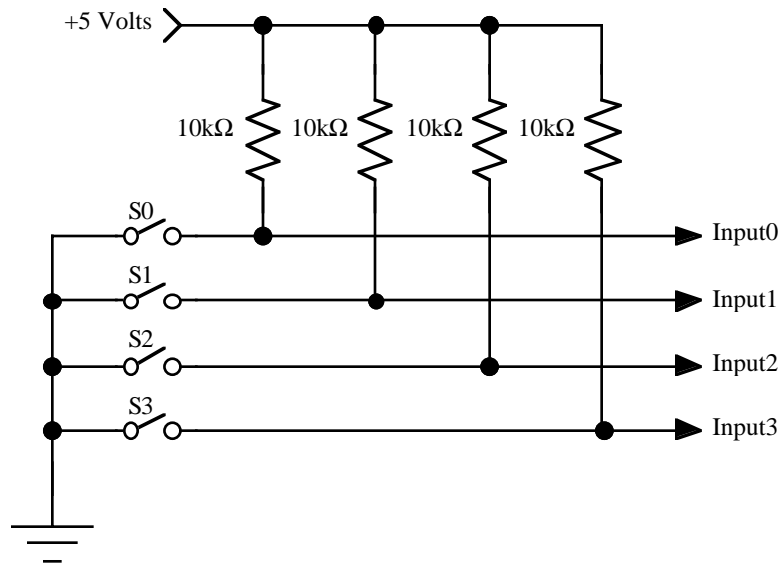
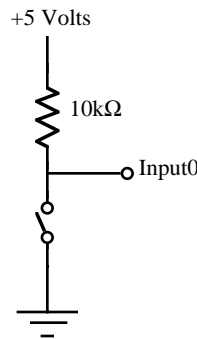
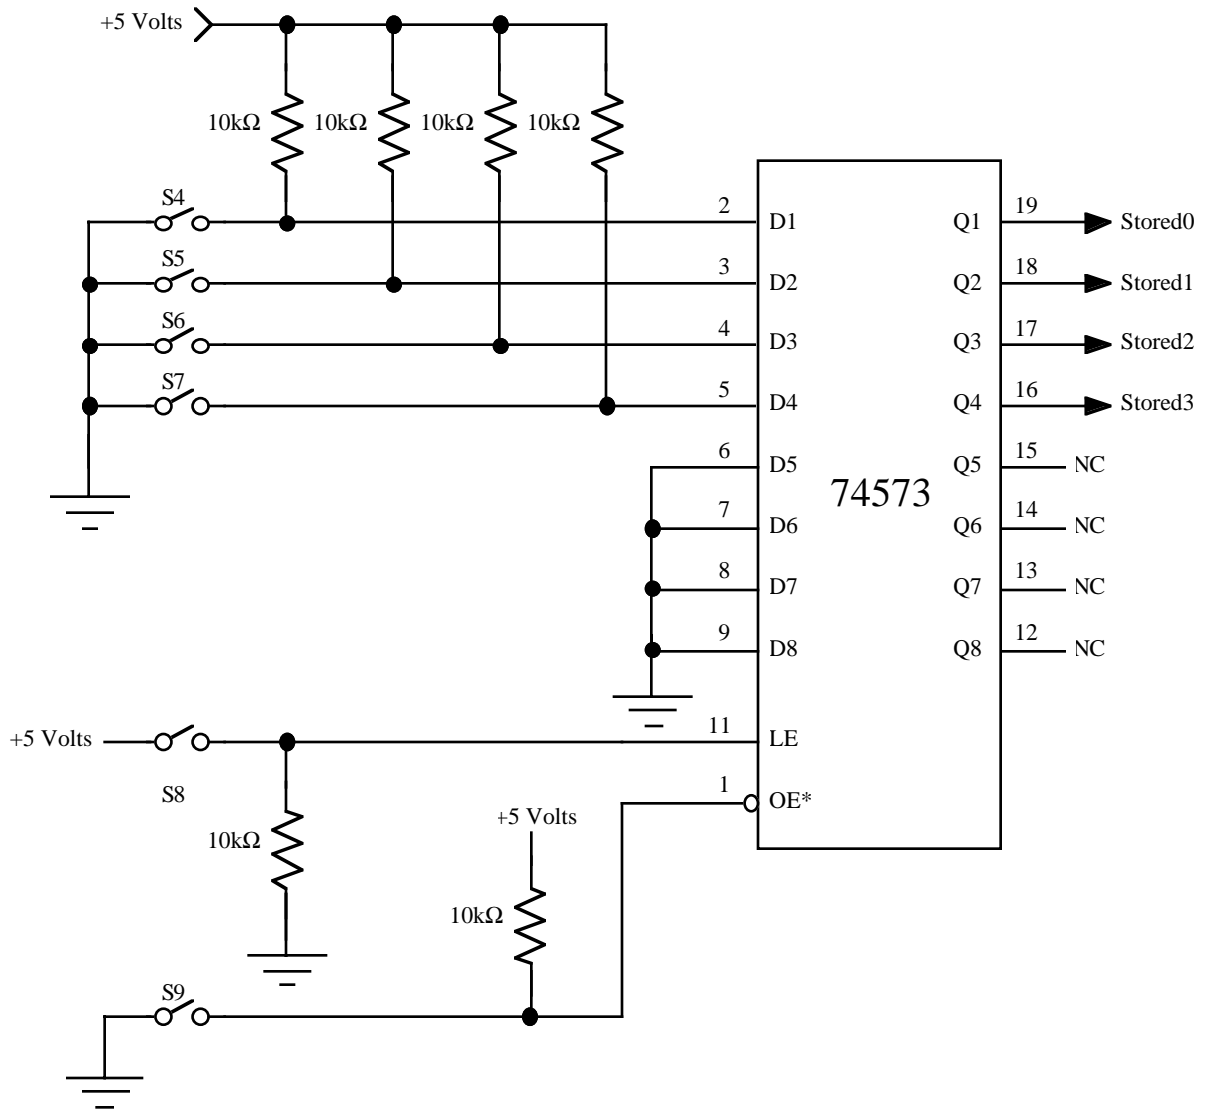
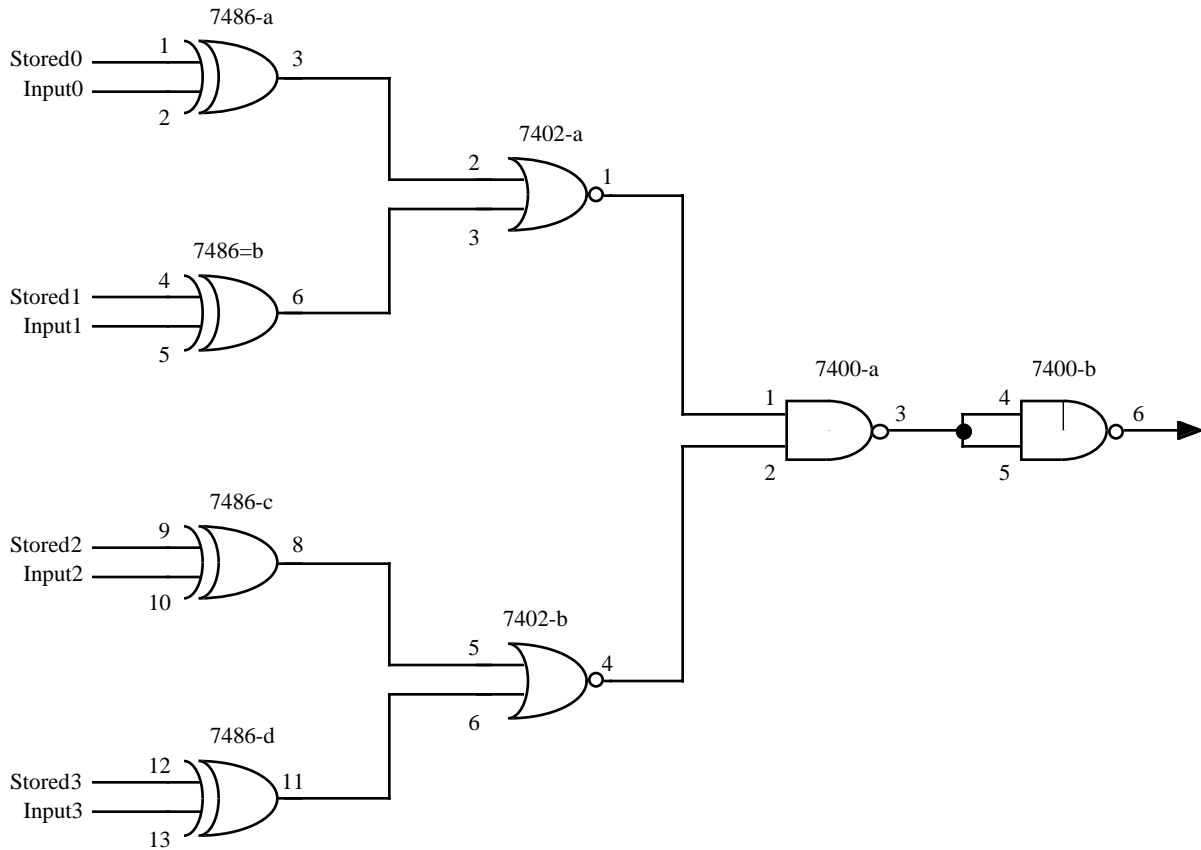

Figure 11. Data input
Figure 12. “Pull up” resistor arrangement
Figure 13. Data memory
Figure 14. Combinational logic to compare two numbers.
Figure 11 shows the data input component of the programmable digital lock. The data input component consists of four switches and resistors configured in what is known as a “pull up” arrangement as shown in Figure 12.
When the switch in Figure 12 is open the 5 Volt source is connected to the output (labeled Input0) through the 10k resistor and the output voltage is +5 volts (logical 1). When the switch is closed the bottom end of the 10k resistor is connected to ground through the switch producing an output voltage of 0 volts (logical 0). The function of the 10k resistor is to limit the current drawn from the +5 volt power supply when the switch is closed. As a result the actual value of resistance is not critical and real circuits typically use values between 1kΩ and 10kΩ. Arrays of switches such as shown in Figure 11 are usually implemented as “DIP” switches similar to those found on many peripheral boards in your computer.
The data memory section of the programmable digital lock is shown in Figure 13. It contains another four switches which function identically to those shown in Figure 11, i.e., when they are open the voltage applied to the D inputs of the 74573 is a logical “1” and when they are closed the input voltage is a logical “0”. The 74573 is a special memory made from D-type flip flops and is known as a “transparent” D-type latch. The actual integrated circuit you will use in the lab will be either a 74373 or a 74573 — the only difference between these chips is in how the pins are configured.
The easiest part of the programmable digital lock to understand is the comparator. Its function is to compare a four digit binary number input by the user with the four bit binary number stored in the D-latch. When the two numbers are identical the lock will operate - in the Electronics Workbench simulation this will operate an LED and a buzzer at the output of the combinational logic shown in Figure 14. The operation of the combinational logic shown in Figure 14 is actually quite simple. The four XOR gates perform the actual comparison; they output a logical zero when then two input numbers are identical. The 7402's and 7400-a function as a AND gate. When the outputs of all XOR gates are zero indicating that the input numbers are identical, the 7402's and the 7400 will produce a high output which can be used to operate an indicator or other electrical device.
3. Now insert a 74573 (or 74373) into your protoboard. Referring to your data sheet for the +5 and ground connections make the power and ground connections. You will build and test a subset of Figure 13 in this part of the lab.
6. Connect the D1 input to +5 through a 10k Ω resistor. Connect D2 to ground with another 10k Ω resistor. Now connect pin 1 (OE*) to ground. Connect pin 11 (LE) to ground. Measure the input voltages D1 and D2 and the output voltages Q1 and Q2. Record your measurements in Data Table 4. Keeping the power on to the chip and without changing either pin 1 or 11 generate the remaining D1 and D2 combinations. Record your measurements for D1, D2, Q1 and Q2 in Data Table 4.
7. Now, connect pin 1 (OE*) to +5 volts through a 10k Ω resistor and pin 11 (LE) to +5 volts through a 10k Ω resistor. Connect the D1 input to +5 through a 10k Ω resistor. Connect D2 to ground with another 10k Ω resistor. Measure the input voltages D1 and D2 and the output voltages Q1 and Q2. Record your measurements in Data Table 5. Keeping the power on to the chip and without changing either pin 1 or 11 generate the remaining D1 and D2 combinations. Record your measurements for D1, D2, Q1 and Q2 in Data Table 5.
8. Build the part of Figure 14 which consists of 7486-a, 7486-b, and 7402-a. Remember to connect pin 7 of each chip to ground and pin 14 to +5 volts. Use 10k Ω resistors to alternately connect Stored0, Input0, Stored1, and Input 1 to +5
8. To investigate the transparent mode of the 74373 integrated circuit in Electronics Workbench operate the switch labeled I (capital I) by typing a capital-I on your computer keyboard. In this mode whatever appears at the input of the 74573 will appear at its output. Try typing any combination of capital-A, capital-B, capital-C, and capital-D. This will operate the four switches labeled A, B, C and D in the Electronics Workbench simulation. These operate as the switch shown in Figure 12 to generate logical "0" or "1" at the inputs of the 74573. As you type capital-A, capital-B, capital-C, and capital-D on your keyboard the LEDs connected to the output of the 74573 should change state to represent the state of the switches — this is what is meant by transparent, the 74573 acts like a wire in this mode. NOTE: If your LEDs do not change this typically means that the I or O switches are in the wrong position. The transparent mode is not a very interesting mode.
9. Using the Electronics Workbench simulation select a 4 digit code and program it into the memory section of your lock using switches A, B, C and D. To program the lock, first set the code on the four input switches labeled A, B, C and D, then latch it into the D-latch memory by typing capital-I to open the switch labeled I. This will produce a logical "0" at the LE (C) input of the 74573.
10. Test your lock by entering various 4 digit codes through switches W, X, Y and Z. Use switch O to turn on the output of the memory by grounding the OE* (OC) pin. When the two four bit binary numbers are identical the comparator circuit should output a logical 1 which will activate the buzzer and output LED.
1. What function does the NAND gate labeled 7400-b at the right of the logic circuit in Figure 14 perform?